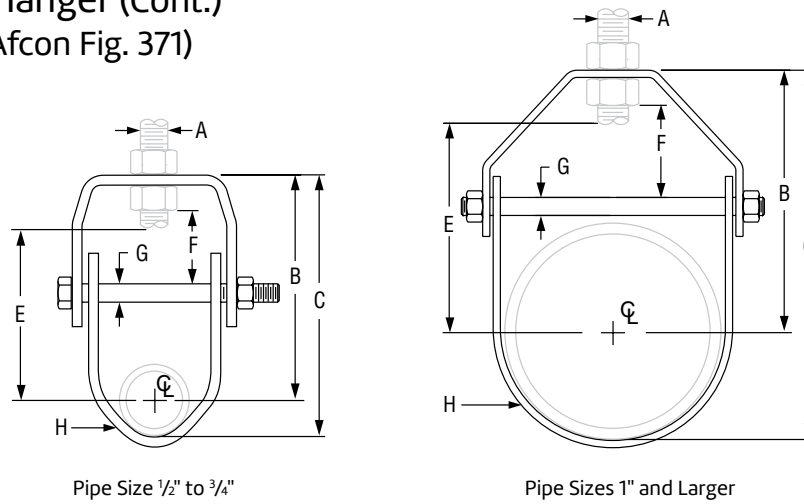

Fig. 260: Dimensions (in) • Loads (lbs) • Weight (lbs)
Adjustable Clevis Hanger Fig. 260 (Formerly Afcon Fig. 371)
- For insulated line options without shields, see Figures 260 ISS and Figure 300. For insulated line options with shields, see Figures 167 and 168. For ductile iron pipe sizes, see Figure 590.
Adjustable Clevis Hanger (Cont.) Fig. 260 (Formerly Afcon Fig. 371)